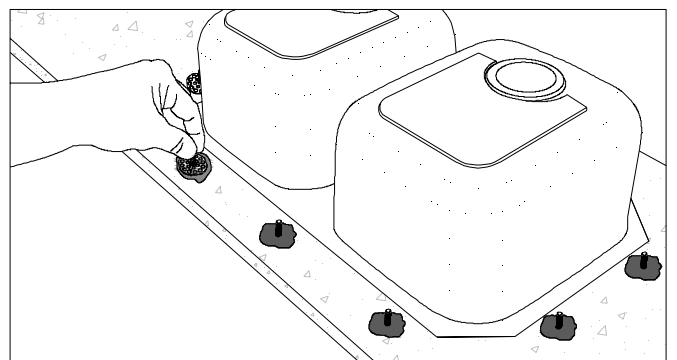

Figure 35D
- Place sink clip base plates into WA 8215. (FIG. 35D)